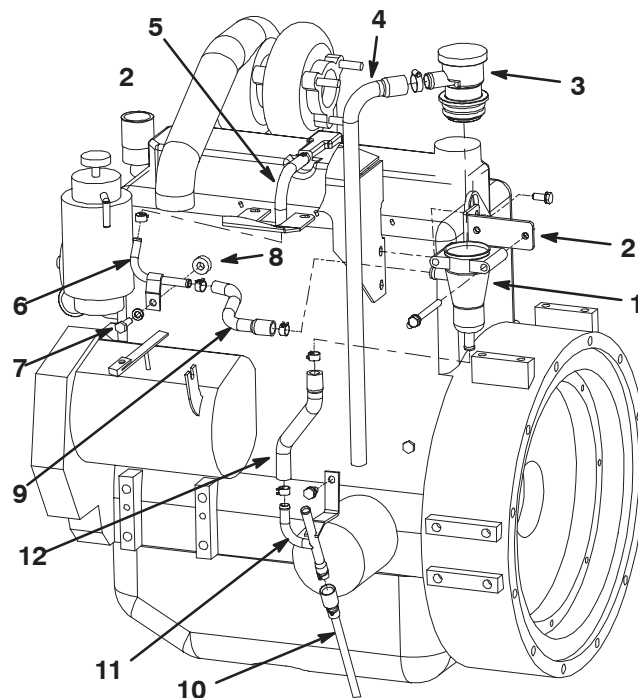

Figure 2
4. Install the oil level pipe and the O-ring to the engine (Fig. 2).
5. Install the new oil level guide and the O-ring to the oil level pipe (Fig. 2).
6. Secure the oil level guide mounting strap to the engine with the screw previously removed (Fig. 2). Install the dipstick into the oil level guide.
9. Install the hose to the rocker cover fitting and secure it with a hose clip (Fig. 2 & 5)). The hose is to be routed thru the opening in the bottom of the air cleaner bracket.
10. Install the breather pipe to the breather hose with a hose clip (Fig. 2 & 5). Using the old clamp mounting hole, secure the breather pipe to the side of the engine with a screw, lockwasher and spacer.
11. Mount the breather adapter to the to the breather bracket with (2) M8 x 18 screws w/washer (Fig. 2 & 5). Make sure the breather adapter is positioned so the side fitting faces toward the the air cleaner bracket.
13. Using the air cleaner mounting bracket holes, secure the breather adapter to the engine with the (2) screws previously removed (Fig. 2 & 5).
14. Install the formed breather hose to the breather pipe and to the side fitting on the breather adapter. Secure both connections with a hose clip (Fig. 2 & 5).
15. Install the oil drain hose to the fitting on the bottom of the breather adapter and to the tube on the oil level guide with hose clips (Fig. 2 & 5).
16. Secure the vent hose to the breather with a hose clamp. Press the breather into the breather adapter (Fig. 2 & 5). Route the hose out the bottom of the engine compartment.